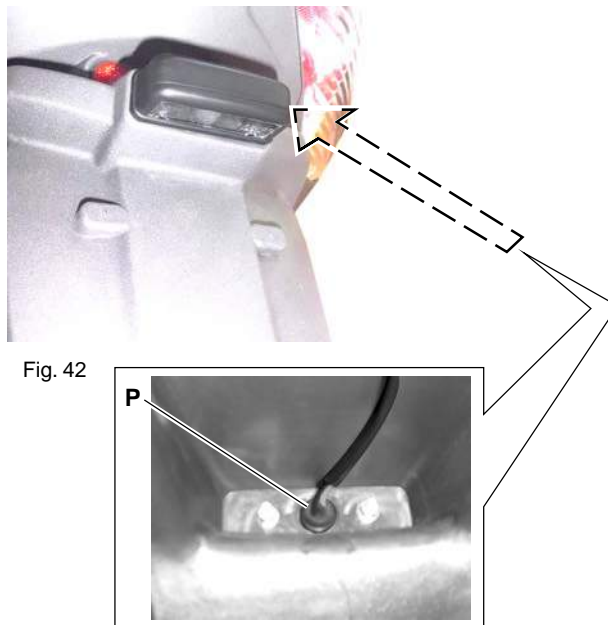

Fig. 42
- Remove rubber lamp socket (P - Fig. 42) that can be accessed through slot on rear mudguard.